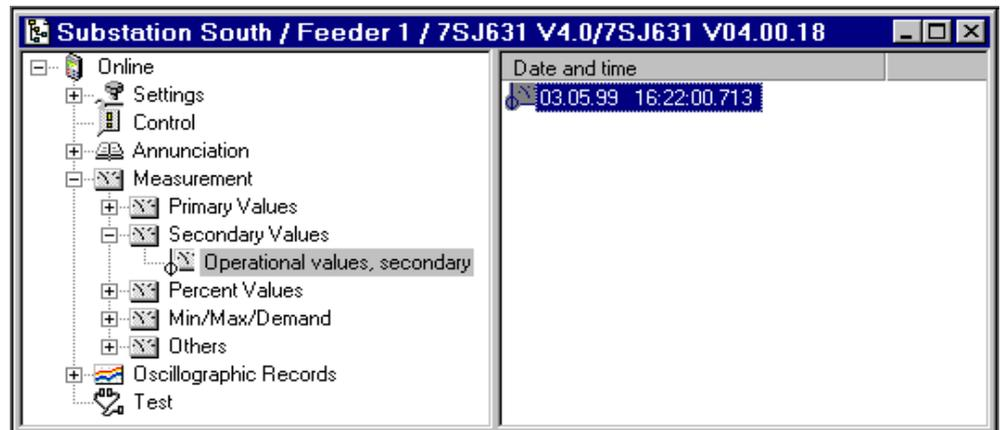

Figure 3-8 DIGSI® 4 — Viewing the secondary operating measured values — example
- The present date and time are shown in the data window (right), as illustrated in Figure 3-8.